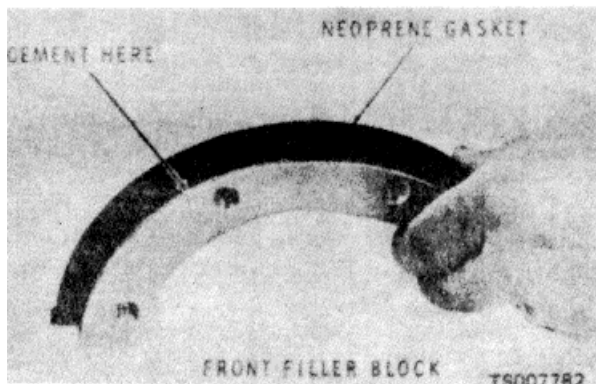

Figure 9-18. Installing Neoprene Gasket on Front Filler Block.
d. Install the gasket (7, fig. 9-13) on the front filler block (31, fig. 9-26) by placing a drop of nonhardening cement on the middle of the gasket and pressing the gasket into the groove in the filler block (fig. 9-18).